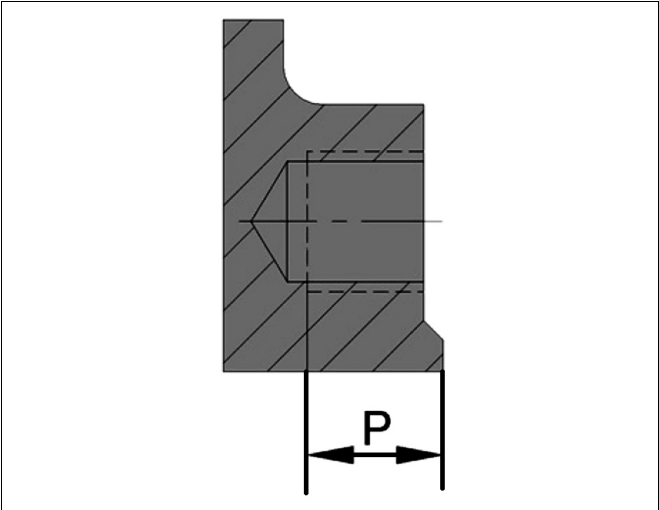

Fig. 2
- The screws in the tapped blind holes will have a maximum depth (Fig. 2) and will never reach the bottom of the hole. The following table (Table 1) shows the maximum thread depth in the holes and the maximum torque to be applied to the flange screws: